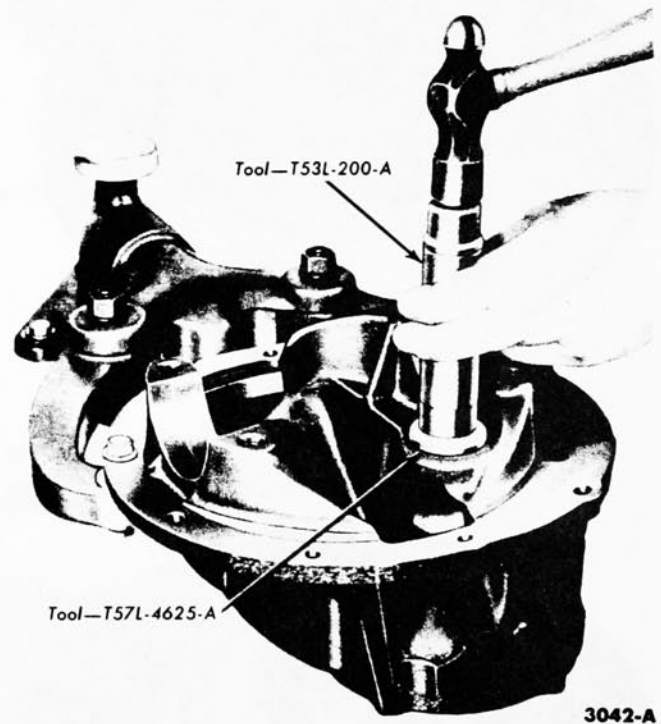

FIG. 12—Pilot Bearing Removal
10. If the pilot bearing is to be replaced, use the tool shown in Fig. 12 to drive the pilot bearing and the bearing retainer out together. To in-